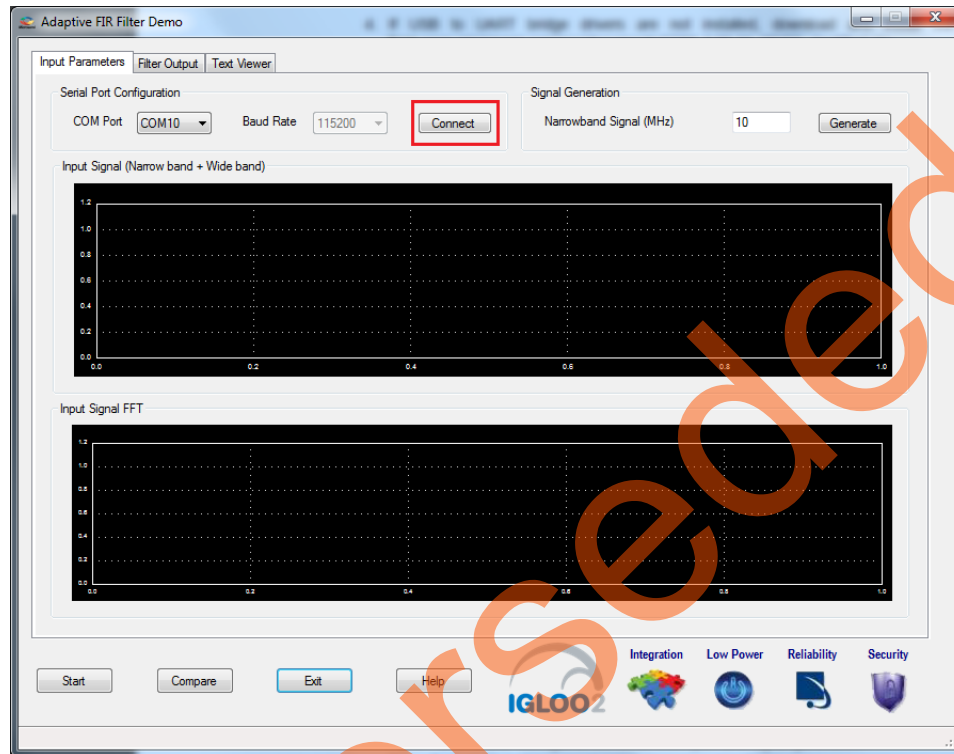

Figure 13 • Serial Port Configuration
1. Launch the adaptive FIR filter demo GUI, install and invoke the executable file provided with the design files. (\\IGLOO2_Adaptive_FIR_Filter_DF\\GUI\\IGL2_Adaptive_FIR_Filter.exe). The Adaptive FIR Filter Demo window is displayed, refer to Figure 13.
2. **Serial Port Configuration:** The COM port number is automatically detected and baud rate is fixed at 115200. Click **Connect**. Refer to Figure 13.